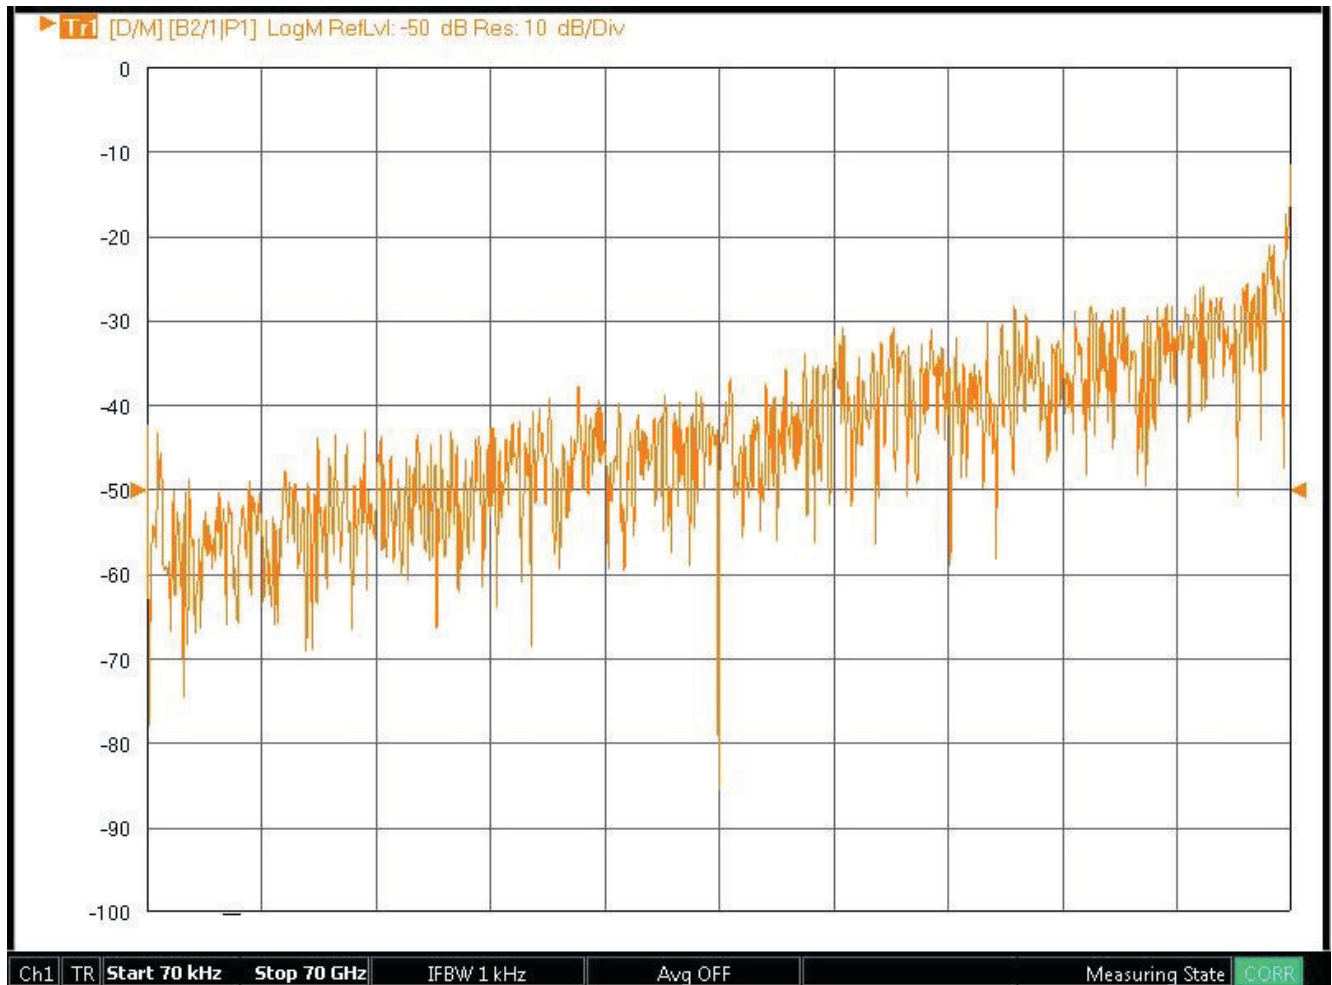

Figure 3-59. Typical Noise Floor Display—Reference Only
- a. Click on Reference Value and set it to -50 dB. The screen should look like Figure 3-59.